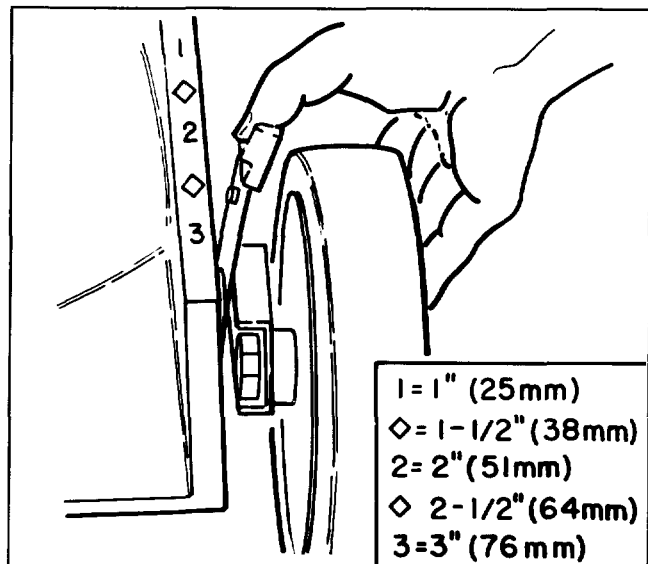

Figure 9
2. For easier adjustment, lift housing up so wheel is off ground. Do not place hands under deck to lift housing. Squeeze adjusting lever toward wheel (Fig. 9) and move it to the desired setting. Assure pin on adjusting lever engages notch in housing. Adjust all wheels to the same setting.